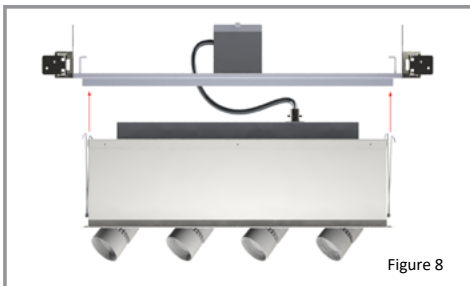

Figure 8
- Pinch the two spring clips located on the sides of the XPD/XAR and secure housing to the installed frame (*Figure 8*)